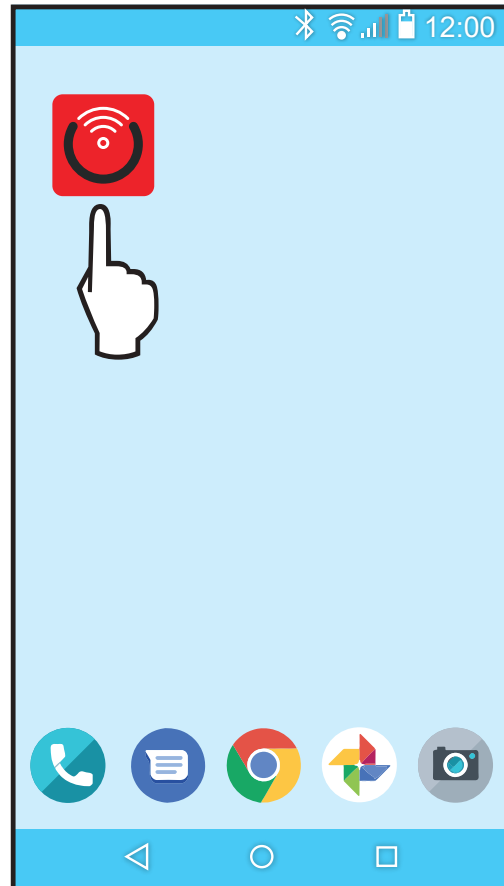

Figure 70. Find your Raymote Mobile App Icon
2. Find the Raymote mobile app icon on your device. See Figure 70.